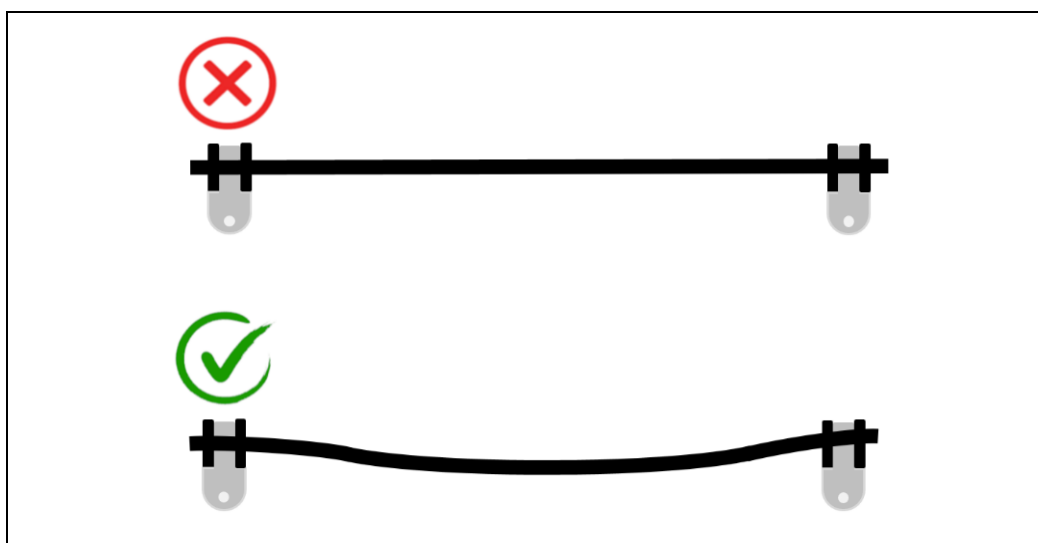

Fig.: 1 : Installing hybrid cable
- ▶ For (integrated) hose lines, length changes of -4 % to +2 % can occur under maximum operating pressure relative to the nominal length. Therefore, they should be installed with some slack. (see Section 3.1.1, Figure 1)